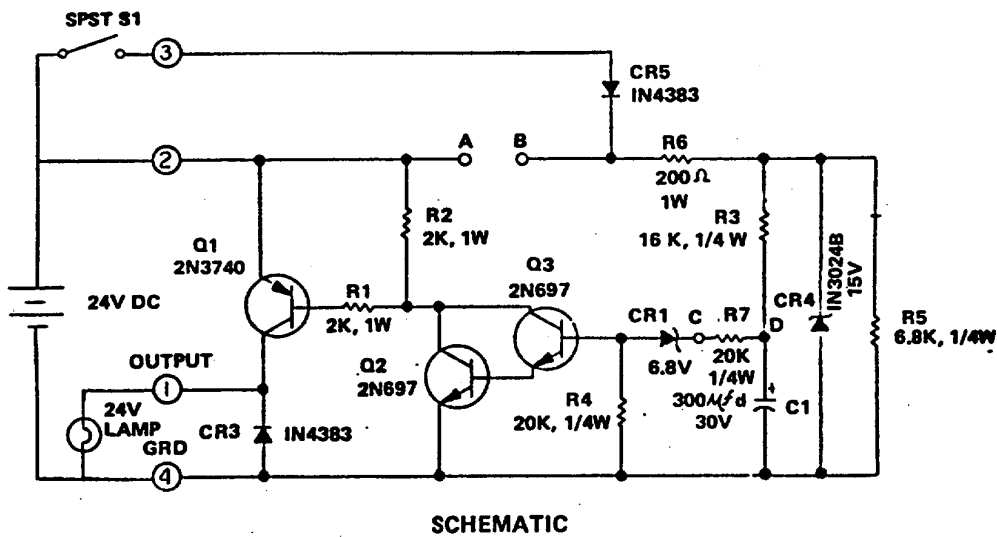

Figure 4-14. Time Delay Module TD3
- (1) Check transistor Q1 (10, figure 4-13 and 16, figure 4-14) by connecting a transistor tester for current gain of 100 minimum, leakage, or short.
- (2) Check transistors Q2 and Q3 (5 and 4, figure 4-14) by connecting each to a transistor tester and testing for current gain of 40 minimum, leakage, or short.
- (4) Check capacitor C1 (10, figure 4-14) by connecting to a capacitor tester and checking for leakage and capacitance. C1 must read 300 microfarads, 30 volts,  $\pm 5$  percent.
- (5) Check resistors using an ohmmeter for the following resistance's:
- (1) Connect time delay module TD3 as shown in figure 4-14.
- (2) Close switch S1 and time the period it takes before lamp DS1 lights. The lamp must light in 4.5 to 6 seconds, or TD3 is defective and must be replaced.